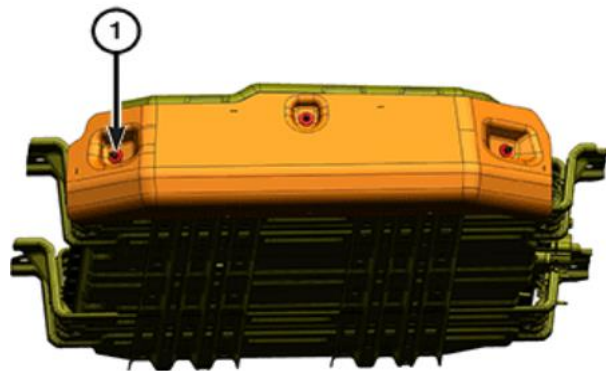

Figure 19 – Heat Shield
34. Remove the nuts (1) and the heat shield from the high-voltage battery (Figure 19).